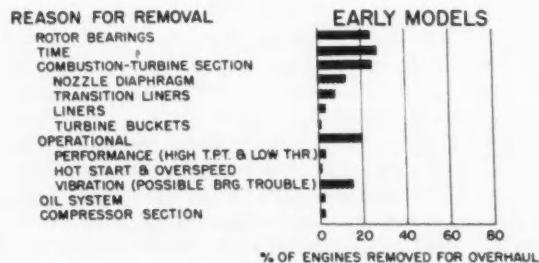

Fig. 2—J35 engines removed for overhaul—engine troubles only
**Main Rotor Bearing**—As shown in Fig. 2, compressor and turbine rotor bearings have been one of the principal causes for engine removal. Engines removed for such causes as vibration, general roughness, or internal noise are generally termed by the Services as being bearing failures, the verification for which can only be obtained by teardown inspection. For the most part, bearing failures have not been primary in cause but are the secondary result of marginal lubrication or engine structural deflection. Service experience has been indispensable not only in determining the point of difficulty but also in providing the data needed to correct the problem. It has also been possible to provide certain modifications to existing engines at the time of overhaul for the purpose of determining, in actual service operation, whether the proposed fix will be satisfactory in flight, thereby substantiating sometimes misleading test results. These service bearing difficulties have shown the need for a refinement in dimensional control of bearings, the configuration and antifriction treatment of bearing retainers, and the clearance requirements for bearings of the type not previously needed in commercial application.